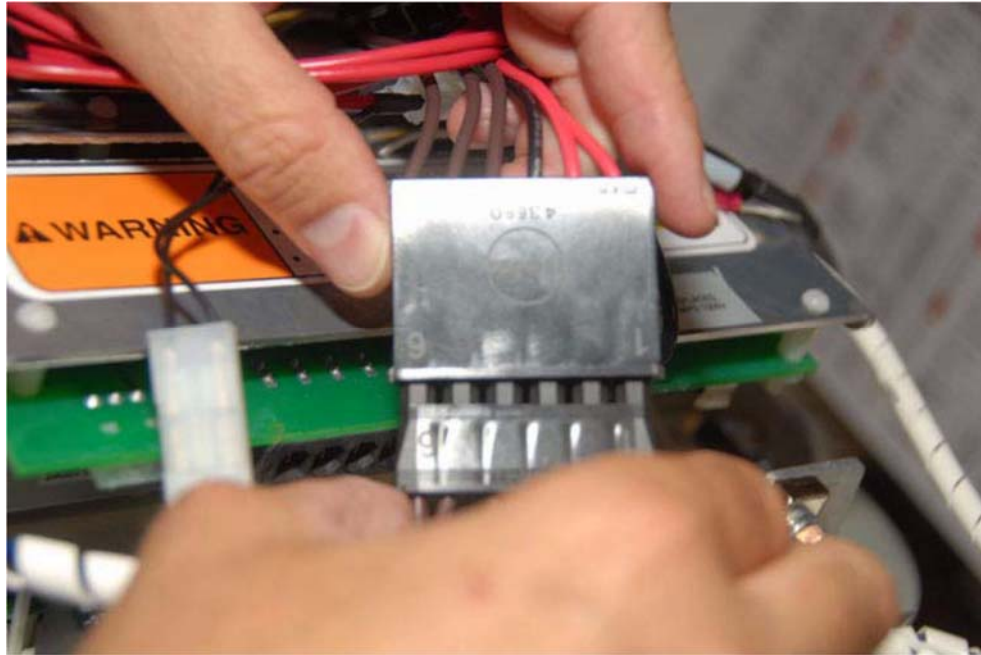

Figure 4 Connect Test Harness to Compressor
10. Connect the two plugs of the Compressor cable harness into corresponding sockets of the DC Bus Test Harness (see Figure 4).